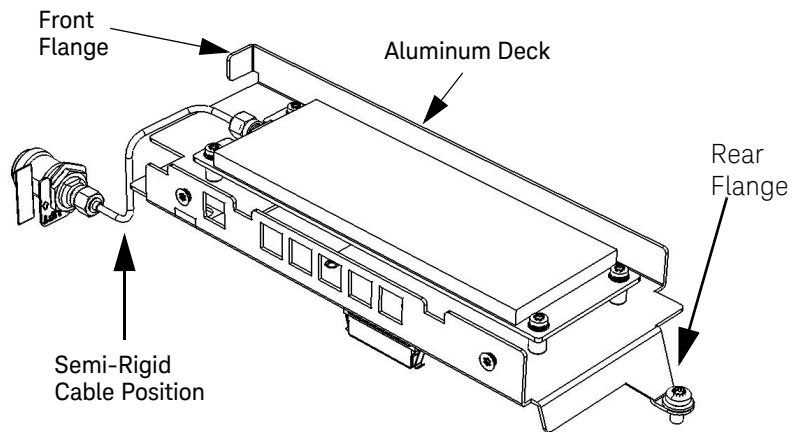
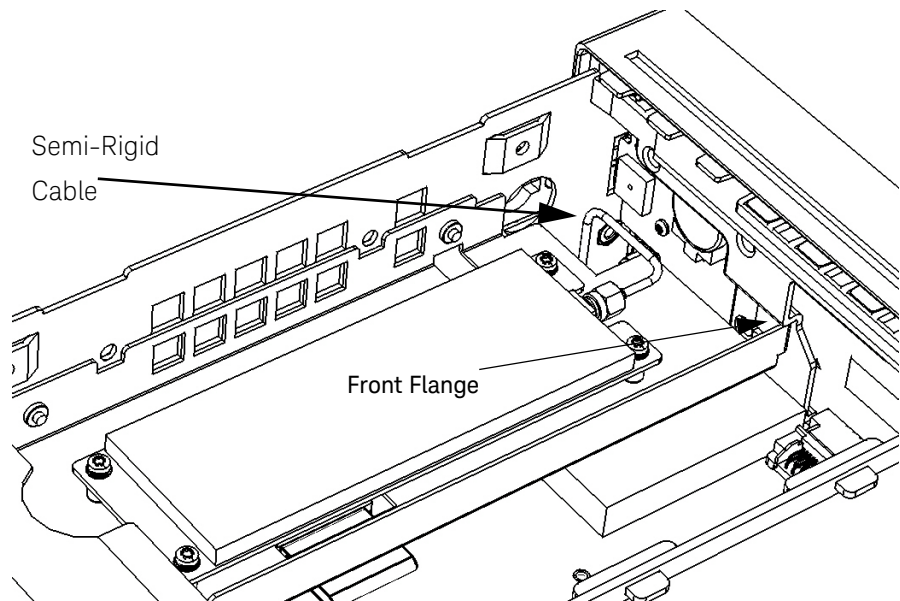

Figure 4-8 53210A channel 2 front panel Option 106/202
Figure 4-12 Semi-rigid cable position
Refer as necessary to **Figure 4-8**.
- 14 Connect the supplied semi-rigid cable to the SMA connector on the connector-adapter. Finger-tighten the connector so that the cable is positioned to connect to the Channel 3 assembly as shown in Figure 4-8 and Figure 4-12. Do not tighten the nut with a wrench yet.